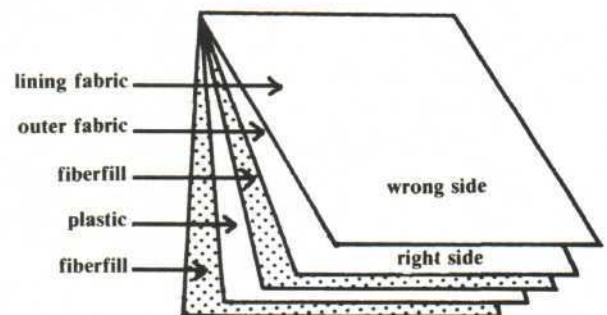

Figure 1. Layers of fabric to be stitched.
2) Lay the fiber-fill batting on a table, cover with plastic and another layer of fiber-fill. Lay the decorative fabric right side up on the fiber-fill. Lastly, lay lining, wrong side up, on top of the decorative fabric (*Figure 1*). Pin lengthwise edges first, then continue with the remainder.